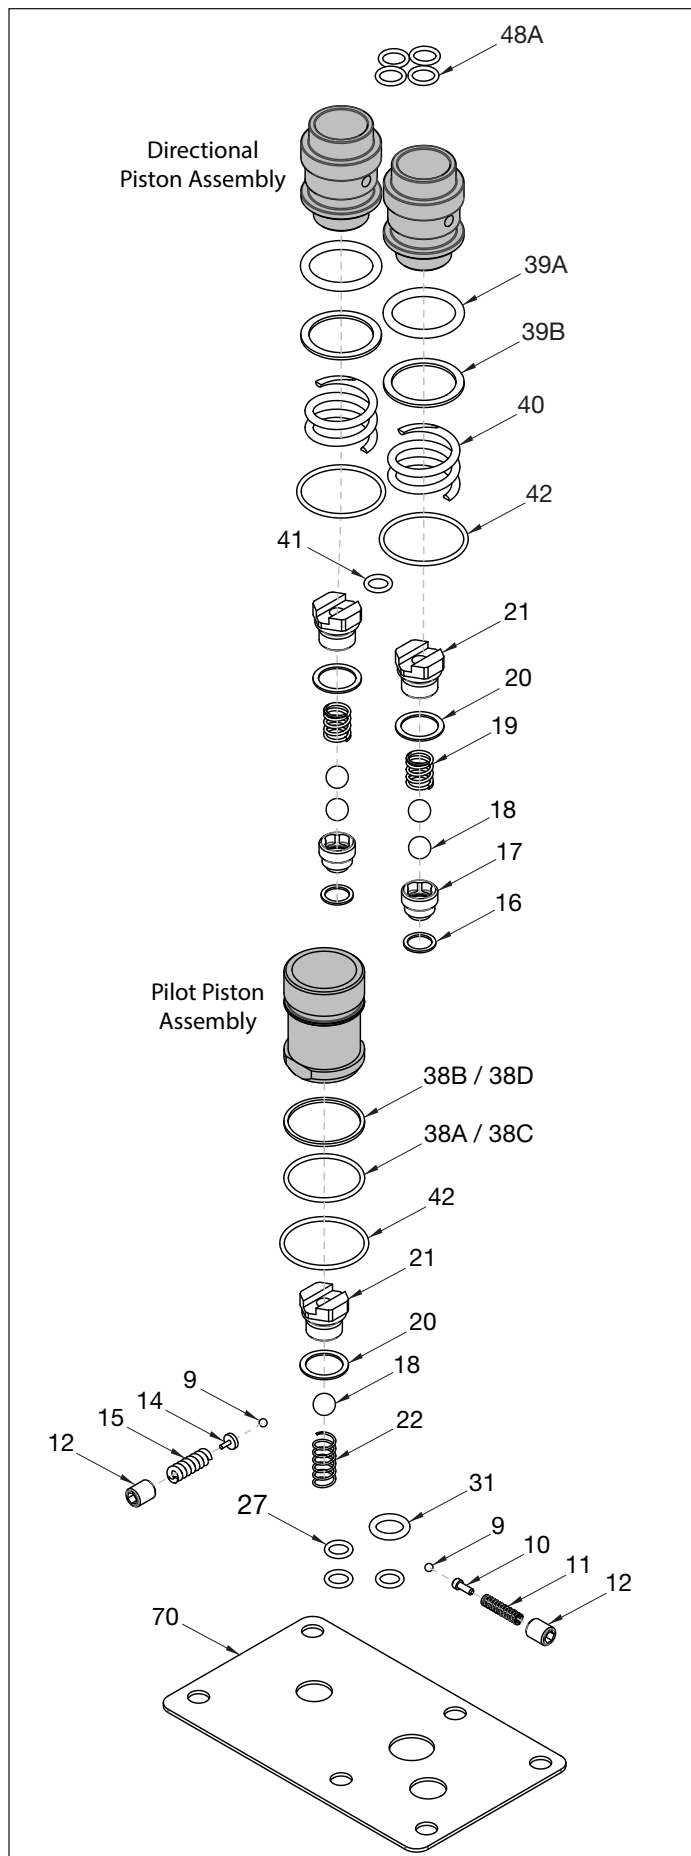

Figure 5, VE43K1 Repair Kit Exploded
** Note: A sleeve (Item 100, DC6621446) is used on some valve versions. The sleeve limits the setting of items 10, 11, 12. See the notes in Fig. 5 for additional relief valve setting information. Also refer to the *Adjustments* section at the end of this manual.
Repair Parts List for Figure 5